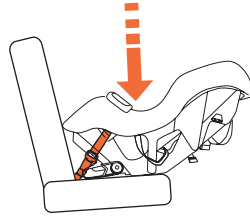

Fig. 27a
- Use body weight or apply weight in seat with hand to compress the vehicle seat cushion then insert the seat buckle tongue into the buckle and pull seat belt tight as possible (Fig. 27a). Pull excess webbing at buckle tongue to tighten.